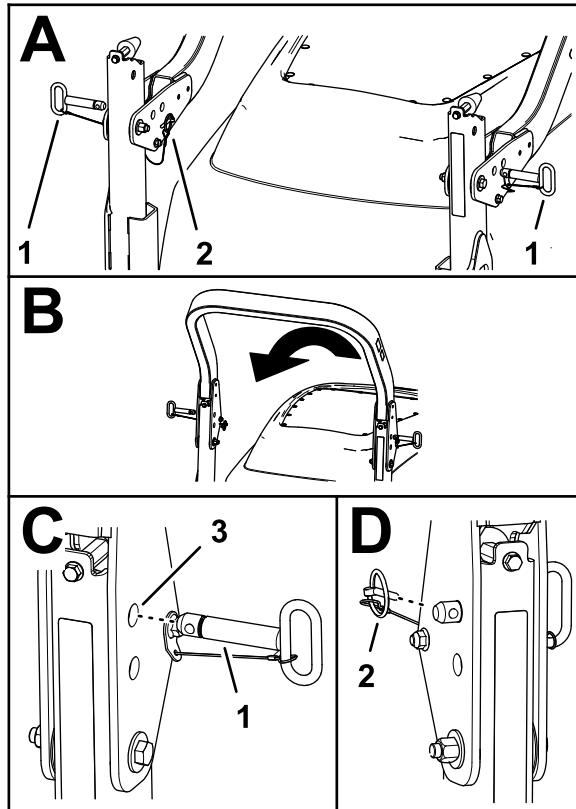

Figure 63
2. Remove the lynch pins that secure the roll-bar pins at each side of the roll bar (Figure 63).